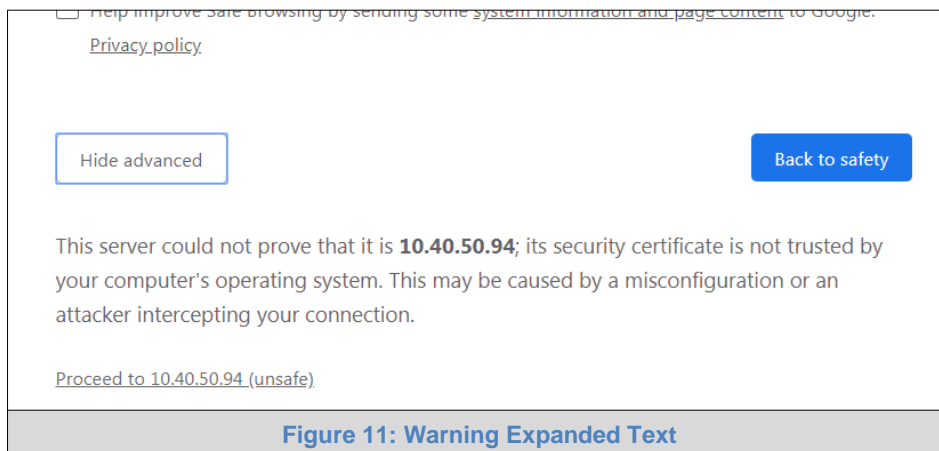

Figure 11: Warning Expanded Text
- Additional text will expand below the warning, click the underlined text to go to the IP Address. In the Figure 11 example this text is “Proceed to 10.40.50.94 \(unsafe\)”.